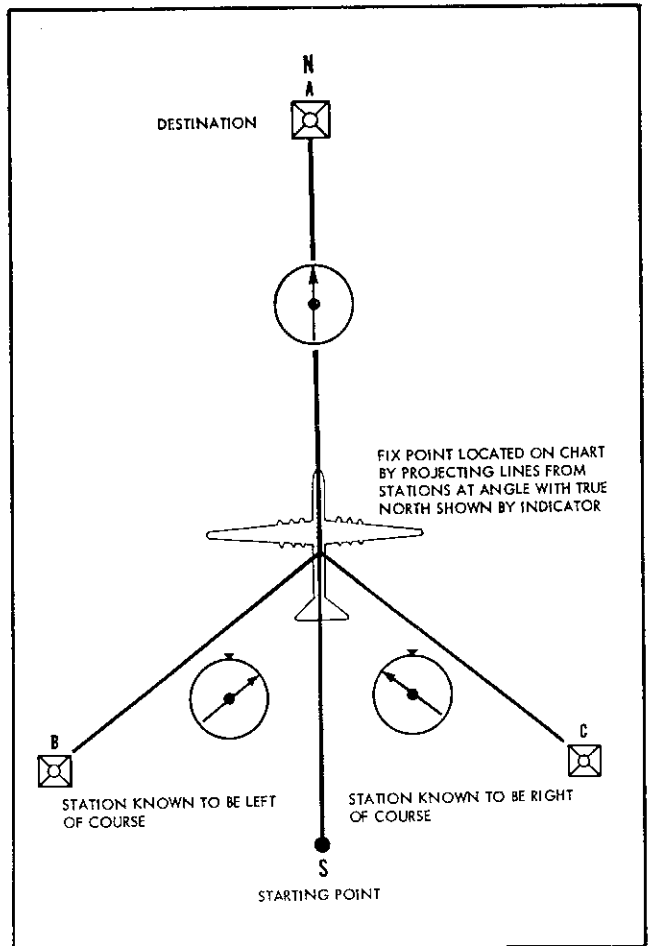

Figure 2-3. Position Fix
e. Position finding in LOOP operation is subject to a 180-degree error since there are two null points in a 360-degree rotation of the loop. This ambiguity is overcome by keeping aware of your general geographical location and selecting stations located well to the right and left of your course. Figure 2-3 demonstrates a flight on a north course with station A supposedly ahead. If the indicator shows a bearing of 180